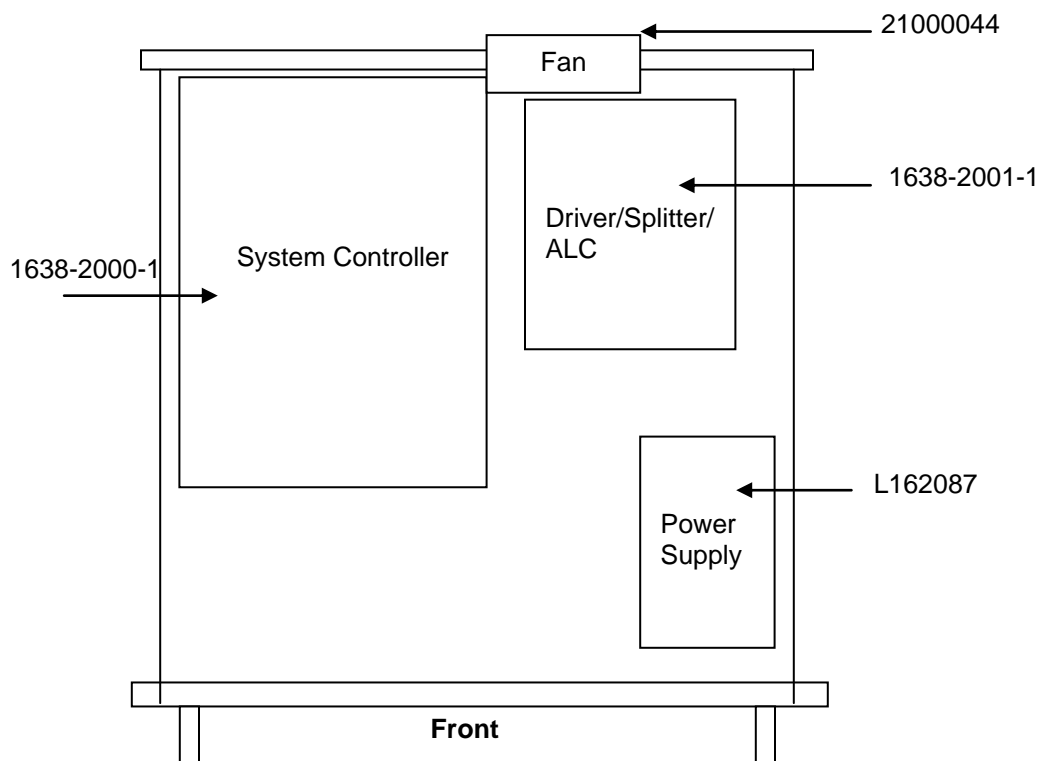

Figure 5.4.3A: SYSTEM CONTROLLER TOP VIEW
Location of these assemblies is shown in Figure 5.4.3A.
2. Remove the 6 screws on the side of the System Controller to remove the top cover. The Driver/Splitter/ALC PCB is located as shown in figure 5.4.3A.
The System Controller PCB is located as shown in figure 5.4.3A